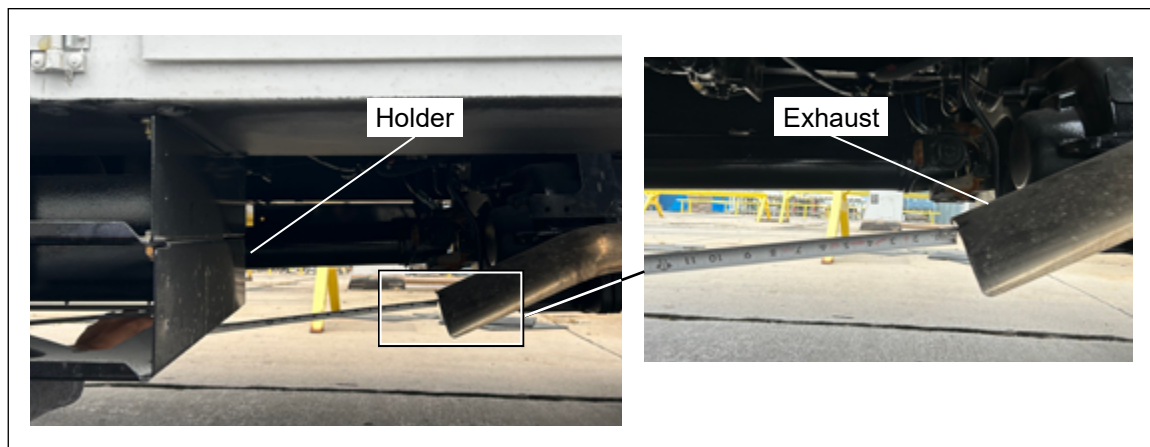

Figure 2 — Measuring the Outrigger Pad Holder to Exhaust Distance (No Repair Required)
4. Position a tape measure at the exhaust tip and measure the distance from the exhaust to the outrigger pad holder (refer to Figure 2).